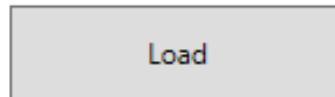

Figure 7-5 Load Button
3. Load the films into the Film Analysis Software by clicking the **Load** button (see Figure 7-5).